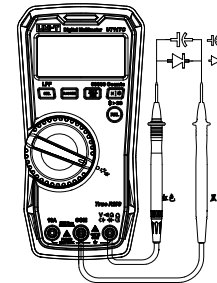

Figure 7
6. Diode measurement (Figure 7)